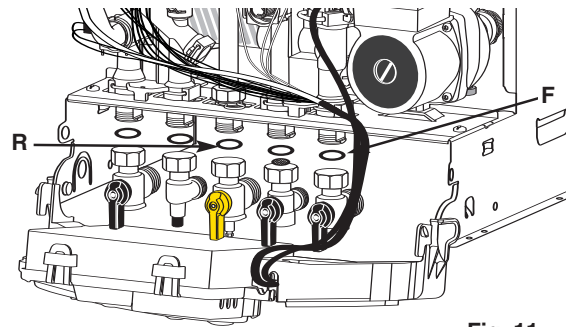

Fig. 11
Place the boiler on the wall on the hanging bracket. If required, there is space for all piping to pass behind the boiler. Using fig. 11 for reference, connect the gas and water pipes and the valves to the base of the appliance using the tails provided. There is a 190 mm space between the valves and the wall to make these connections.
- Hinge down the front panel (fig. 11) to access to the valve connections